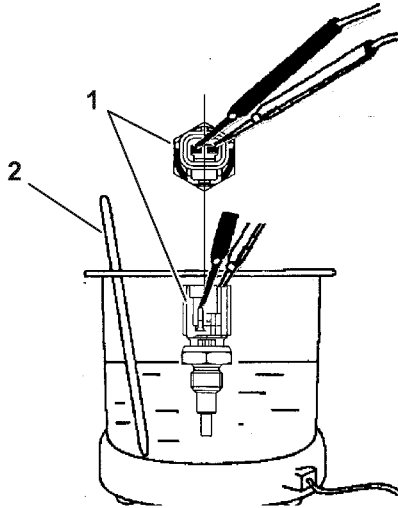

Figure 8-10
1. Inspect the water temperature sensor to make sure that it is properly operating. As shown in the following figure, connect an electric resistor to the coupler of the water temperature sensor (1, Figure 8-10).
2. Dip the water temperature sensor and an accurate thermometer (2, Figure 8-10) into the cooling water.